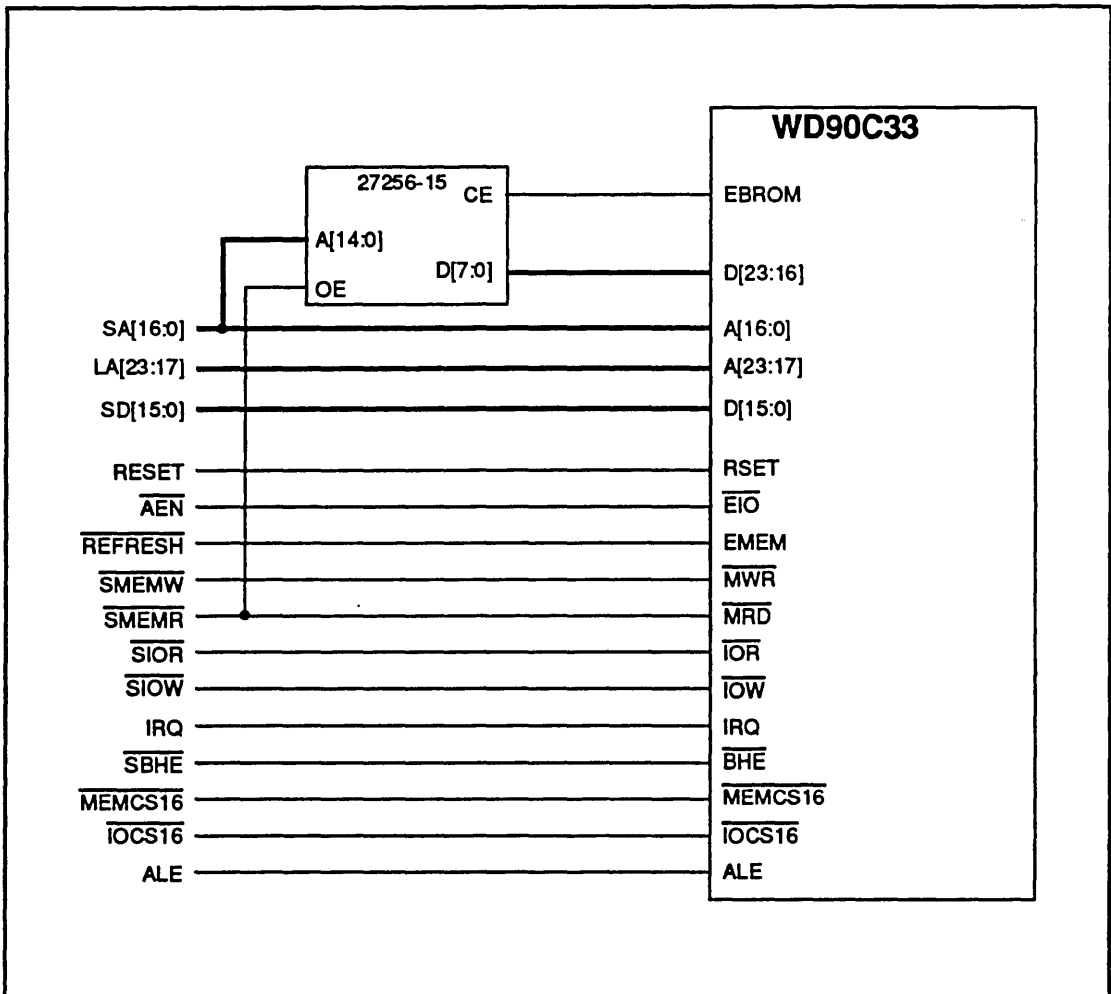

FIGURE 3-5. AT COMPATIBLE 16-BIT INTERFACE WITH 8-BIT BIOS
- Figure 3-5. AT Compatible 16-Bit Interface with 8-Bit BIOS
Figure 3-5 shows the interface between a 16-Bit AT compatible bus, an 8-Bit BIOS, and the WD90C33 Controller. The typical use for this configuration is with 386/486 based systems.